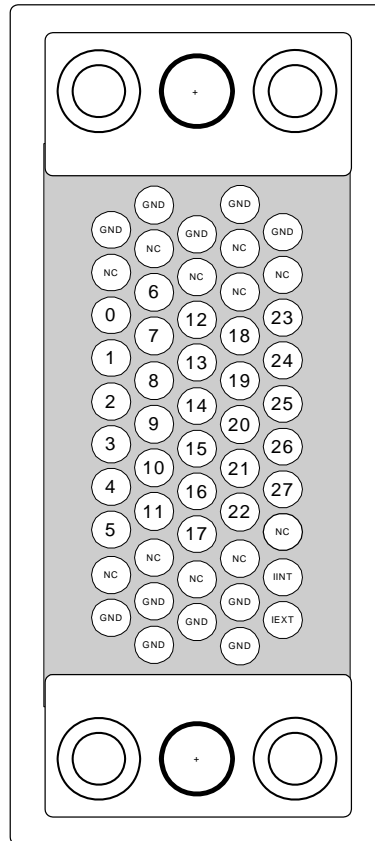

Fig. 2.2 – Mod. A 1733B – A 1833B HV Multipin Connector
Multipin connector Radiall 691803004-type, 52 pin male (to be mated with Radiall 691802002-type⁵ [SCEM 09.41.34.700.2]); see Fig. 2.2 for pin assignment.
- **Mod. A 1733B – A 1833B:** provide short circuit between Pin 51 and Pin 52 (IINT and IEXT) of the HV Multipin Connector (see Fig. 2.2); this is a safety feature to verify that the connector is plugged and the channels are connected to their loads (see § 2.4.2). This operation is not necessary if the S1 pins on the PCB are short circuited.